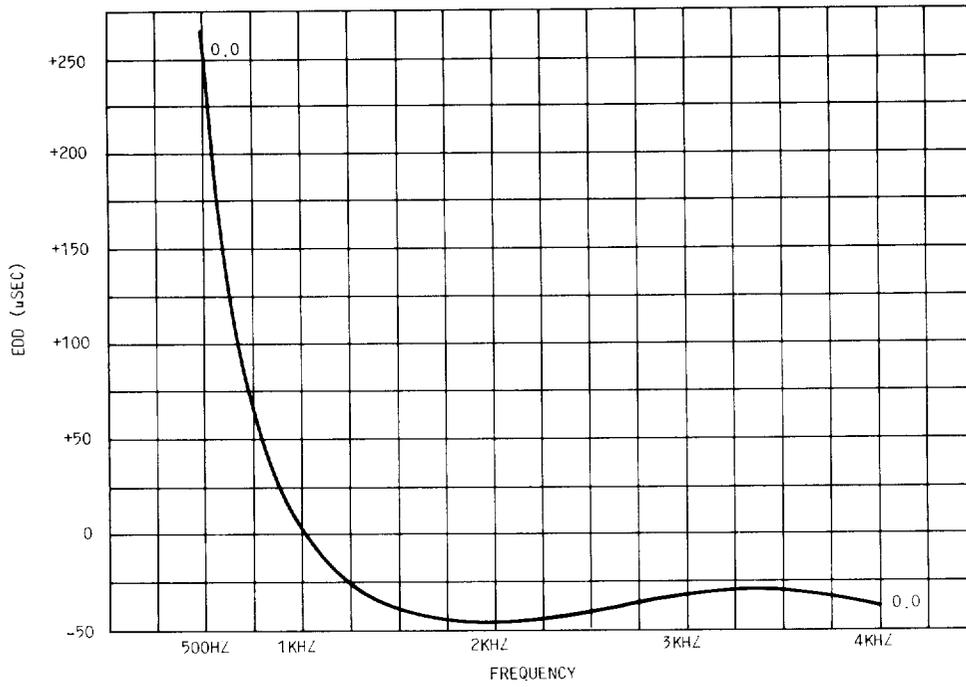

Fig. 10—Envelope Delay Distortion Curve
4.03 Figure 10 gives the envelope delay distortion for the repeater.